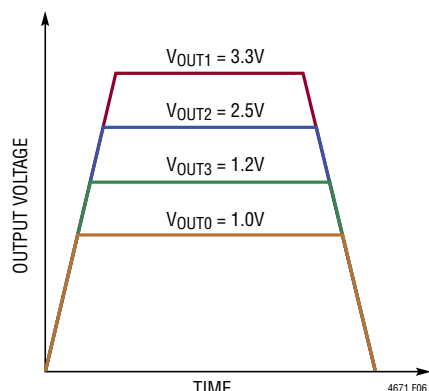

Figure 6. Output Coincident Tracking Waveform
The coincident output tracking can be recognized as a special ratiometric output tracking which the master's output slew rate (MR) is the same as the slave's output slew rate (SR), see Figure 6.